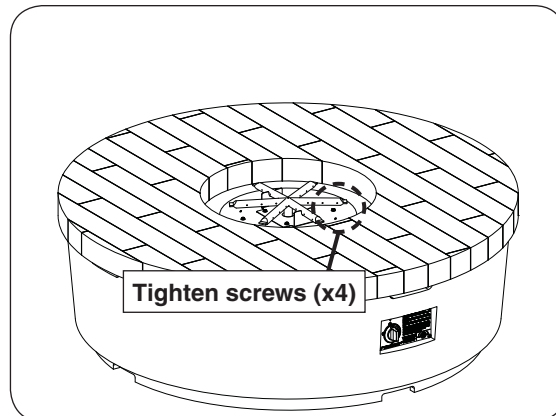

Fig. 30-3 Install burner
2. Use a $\frac{5}{16}$ " nut driver to fasten the burner to the base (see Fig. 30-3).